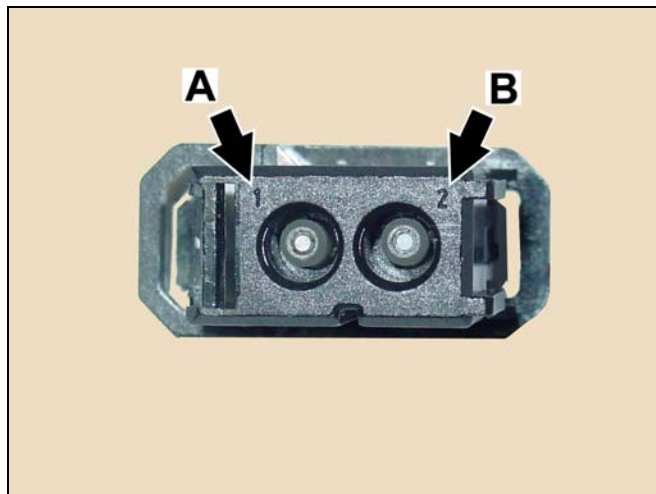

Figure 11
- Remove the fiber labeled “SDARS” from slot 1 (A, Figure 11) of the MOST connector and insert the fiber labeled “SDARS 1” in its place
- Remove the fiber labeled “TEL” from slot 2 (B, Figure 11) of the MOST connector and insert the fiber labeled “TEL 1” in its place
- Remove the fiber labeled “SOUND” from slot 2 (B, Figure 11) of the MOST connector and insert the fiber labeled “SOUND 1” in its place